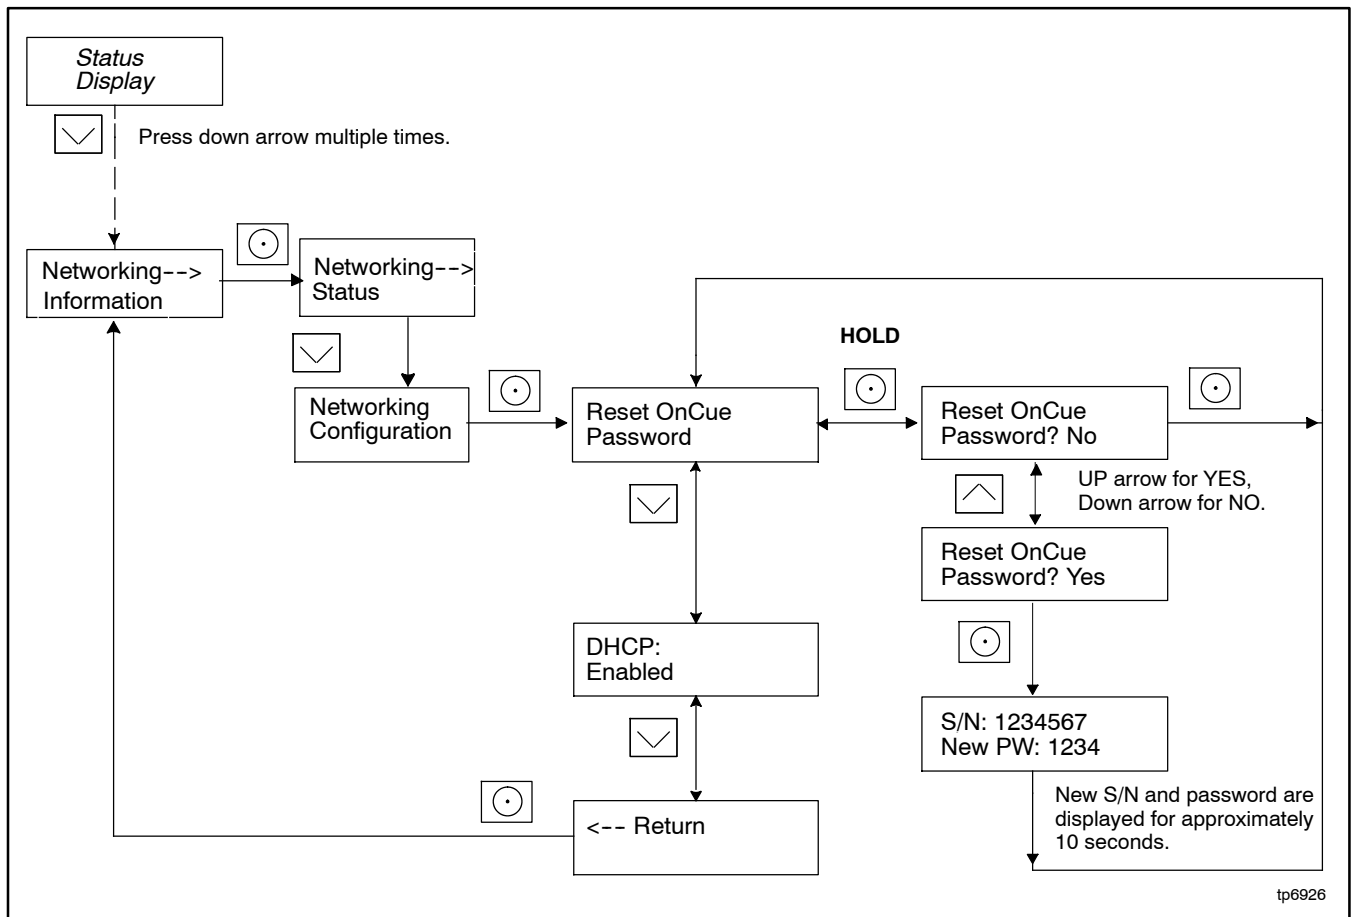

Figure 1-3 Finding the Serial Number and Password, RDC2 and VSC Controllers
2. Follow the reset password procedure shown in Figure 1-3. See the generator set operation manual for more information, if necessary.